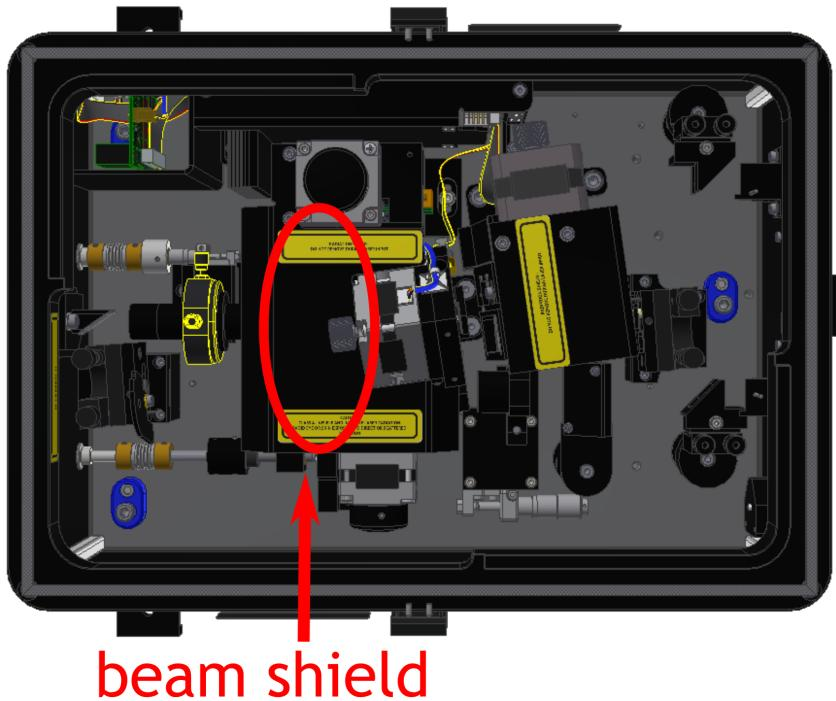

Figure 3.1: Optical Unit (top view) with Beam Shield installed.
**To protect your eyes make sure to have the beam shield in place, see Figure 3.1!**